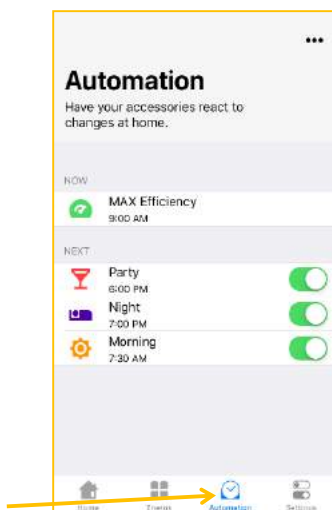

Figure 55
10.13.1. Click at **Automation** menu option for operating scenarios of BLINDS (Fig. 55).